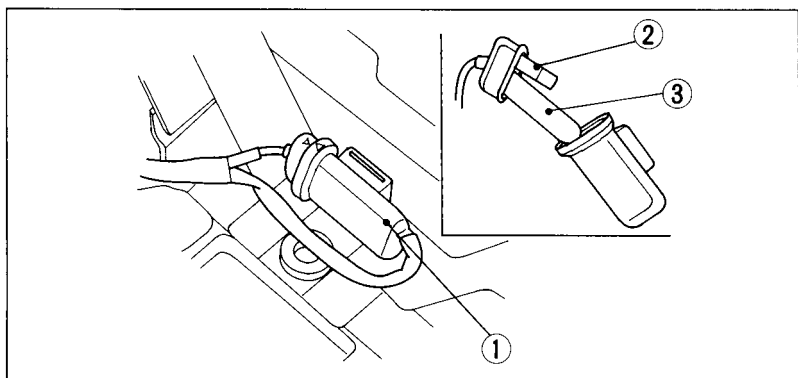

Fig. 4-20
As illustrated in Fig. 4-20, the main fuse (1) and the spare fuse (3) are located in the battery compartment. The main fuse is 15 A.